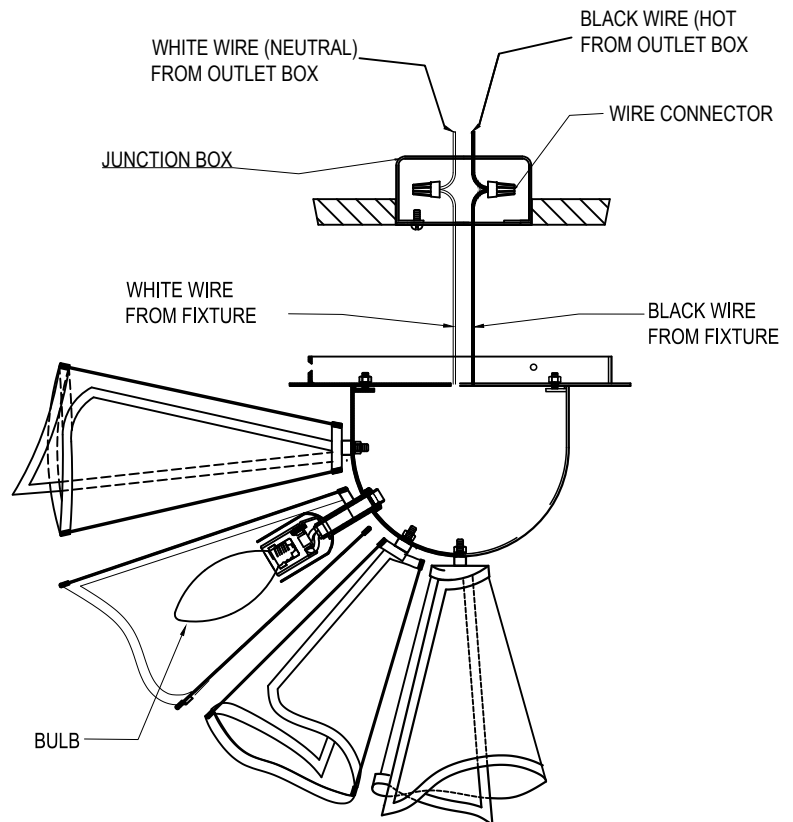

FIGURE-2
2. Fasten the white fixture lead to the white wire in the junction box. Fasten the wires together with an approved fastener (wire nut). Starting about 1" below the fastener, tightly wrap the connection with electrical tape so that the connections seals the end of the fastener. (Refer to Figure-2)